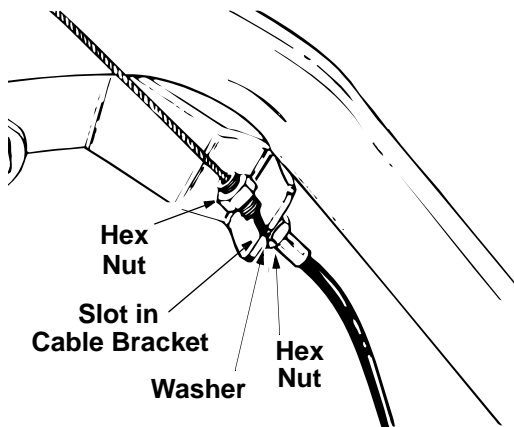

Figure 5
**If the belt turns with the unit in neutral**, adjust by moving the hex nut below the cable bracket **down** two full turns. See Figure 5. Tighten the upper hex nut against the bracket.